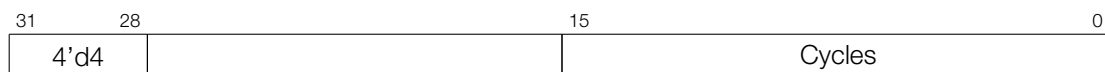

Figure 151: Instruction Type — WAIT
**Operand**    **Description** - see Figure 151